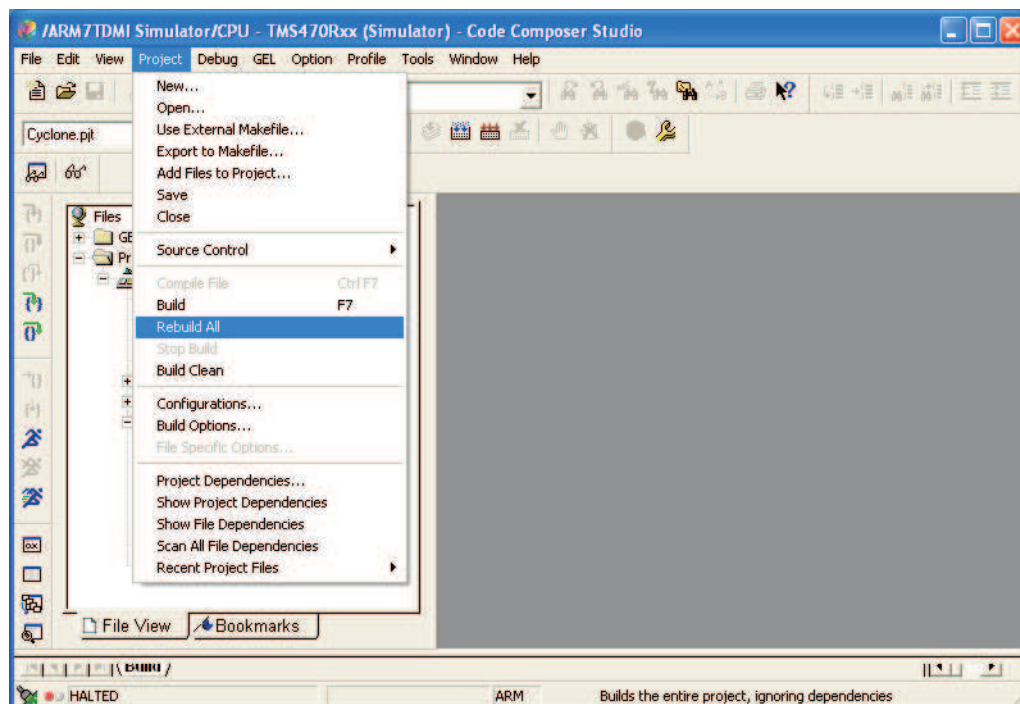

Figure 28. Open a Project File *Cyclone.pjt* (rebuild all)
8. As shown in Figure 28, select **Project M Rebuild All**. This generates the file **Cyclone.x0** based on **Cyclone.out**, and the file of **Cyclone.x0** is saved inside the folder where **Cyclone.pjt** is saved.